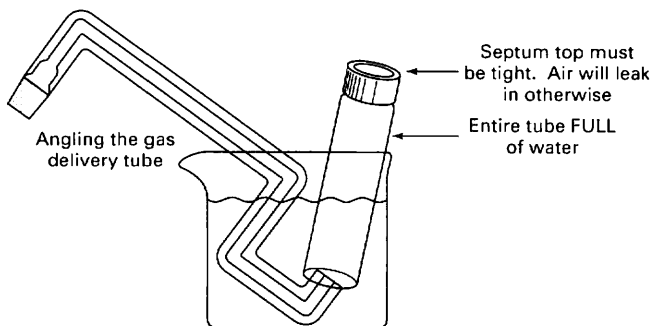

Fig. 38 Setting up for gas collection.
4. Angle the straight end of the **capillary gas delivery tube** under and into the gas collection reservoir (Fig. 38). Believe it or not, the gas